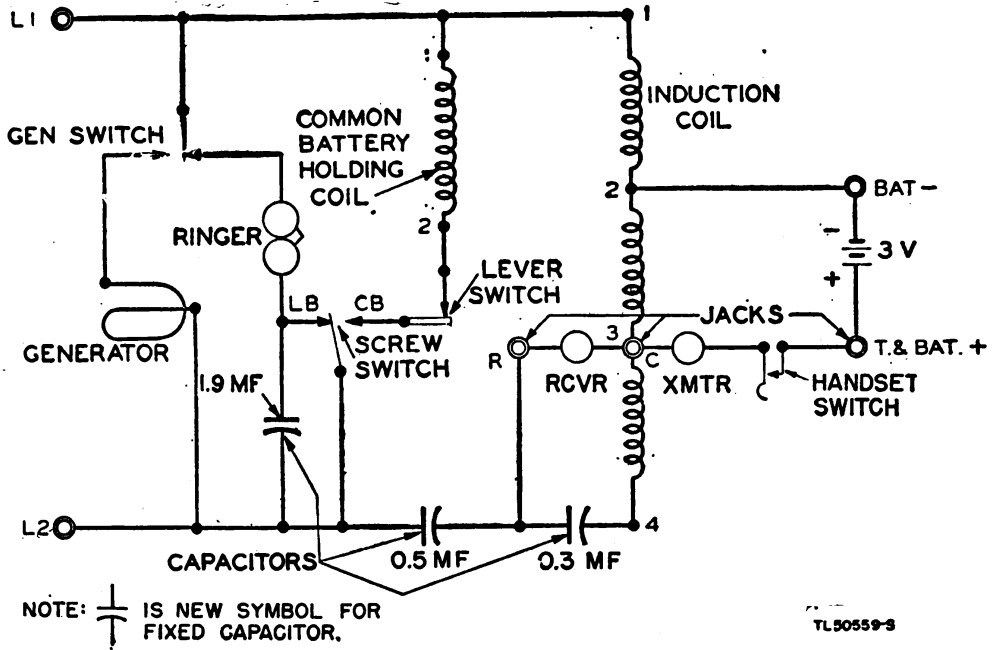
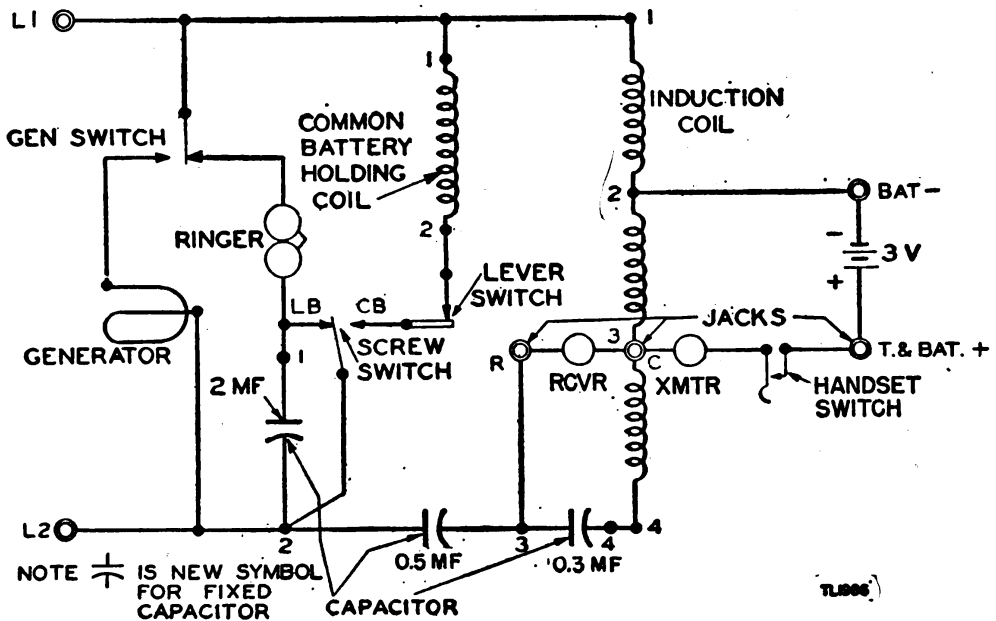

Figure 25. Telephone EE-8—schematic diagram.
Figure 26. Telephones EE-8-A and EE-8-B—schematic diagram.
e. **INDUCTION COIL.** The induction coil (Coil C-105) is an autotransformer with one continuous winding tapped at terminals 2 and 3 so as to form the 1-2 section, the 2-3 section, and the 3-4 section. (See figs. 25 and 26.)
g. **CAPACITORS.** In Telephone EE-8, three physically separate capacitors, of 1.9-mf, 0.5-mf, and 0.3-mf capacitance are used. (See figs. 25 and 27.) In Telephones EE-8-A and EE-8-B, Capacitor CA-355 comprises a 2.0-mf, a 0.5-mf, and a 0.3-mf capacitance element, all assembled into one container and internally connected to the terminals numbered 1, 2, 3, and 4. (See figs. 26, 28, and 29.)
The schematic diagram of Telephone EE-8 is shown in figure 25 and the schematic diagram of Telephones EE-8-A and EE-8-B is shown in figure 26.
- (3) Complete schematic diagrams (figs. 25 and 26).
- (4) Voltage and resistance chart (par. 49).